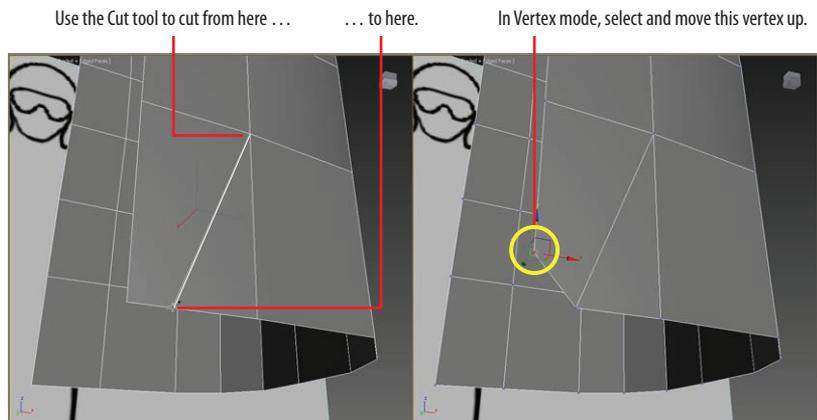

FIGURE 7.25 Cut the polygon at an angle to raise the corners (left). Select the corner vertex and move it up (right).
- Go to the top level by exiting the Edge tool. Use the Cut tool (Graphite Modeling Tools tab > Edit panel > Cut), and cut an edge starting at the top corner of the polygon closest to the groin. Cut about halfway to the right from the corner of the model's bottommost edge. See Figure 7.25 (left).
5. In Vertex mode, select the lowest inside vertices and move them up a bit to create a diagonal edge, as in Figure 7.25 (right). Do this for both the front and back of the model.